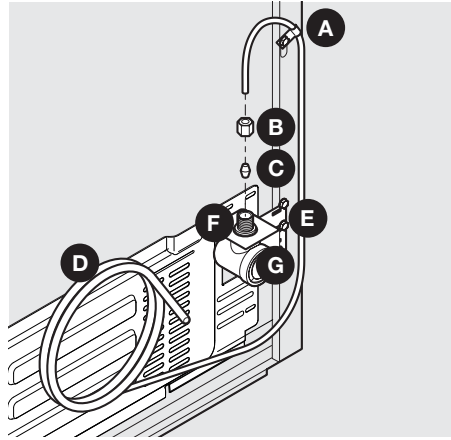

Figure 1
4. If you use copper tubing - Slide the brass compression nut, and then the ferrule (sleeve) onto the water supply line. Push the water supply line into the water valve inlet as far as it will go ($\frac{1}{4}$ "/6.4 mm). Slide the ferrule (sleeve) into the valve inlet and finger tighten the compression nut onto the valve. Tighten another half turn with a wrench; **DO NOT** over tighten. See Figure 1.